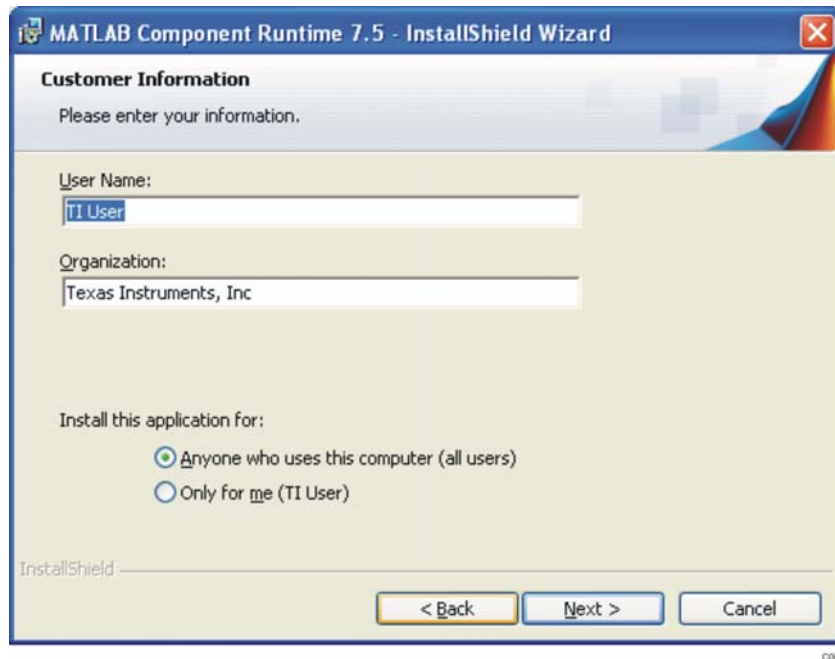

Figure 4. Customer Information
3. For the *Customer Information* (Figure 4) screen, specify the *User Name*, *Organization*, select the desired user option button, and click *Next*.